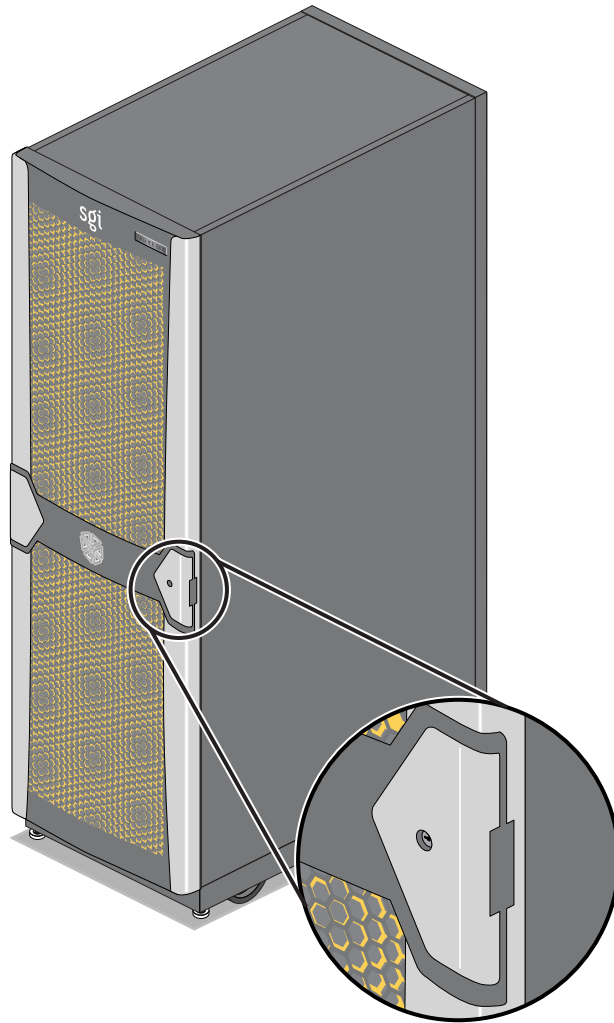

Figure 4-2 Front Lock on Tall (42U) Altix Rack
At the time this document was published only the tall (42U) Altix ICE rack (shown in Figure 4-2) was approved for use with the ICE systems.
- **Front and rear door.** The front door is opened by grasping the wide end of the triangle-shaped door piece and pulling outward. It uses a key lock for security purposes that should open all the front doors in a multi-rack system (see Figure 4-2 on page 42). Note that the front door and rear door locks are keyed differently. The optional water-chilled rear door does not use a lock.